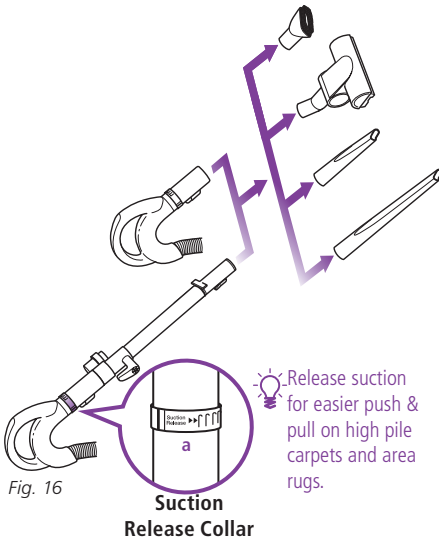

Fig. 16
- 2 Attach desired accessory onto the end of either the extension wand or the handle. (Fig. 16)
- 3 **Your vacuum has tremendous suction power. Adjust the amount of suction with the suction release on the handle. Open the valve (a) by rotating the collar 90° counterclockwise for low suction when doing light jobs such as drapes or fine surfaces. Close the valve (a) by rotating the collar clockwise 90° for high suction and when using the hand held turbo brush. (Fig. 16)**